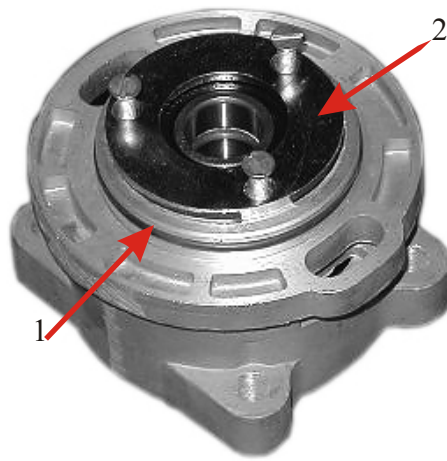

Fig. 110.
- Set the flange and fasten it with three screws using a sealing stuff (Fig. 110, Pos. 2)